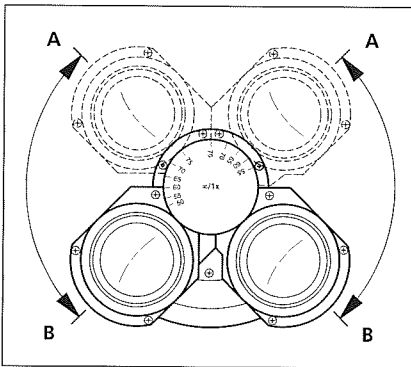

Fig. 6 Adjusting the viewing height
- Swivel the eyepiece tubes fully up (Fig. 6/A) or down (Fig. 6/B) to adjust the viewing height to your individual requirements.